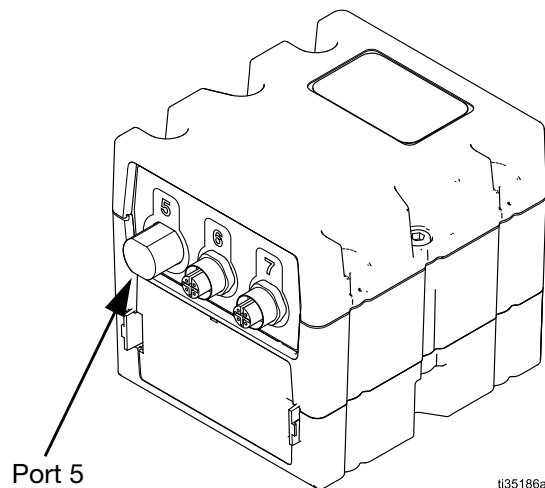

FIG. 9 ProDispense FCM3 Port 5
2. Attach the signal cable (5) provided from the side port of the gateway (4) to port 5 on the FCM3 (see FIG. 9).